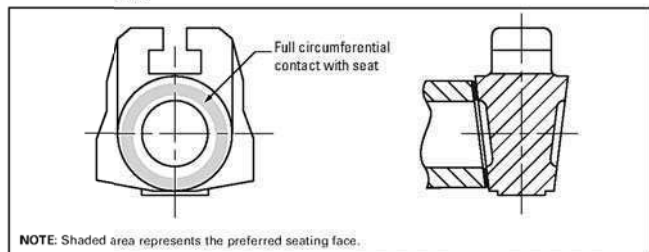

Figure 6.1A Wedge seating face
nuts. With the handwheel, close the valve firmly and then open partially, remove bonnet nuts and lift entire bonnet assembly. Care should be taken that the wedge does not slip off the stem "T" head. Check wedge seating face for 100% contact as shown in Figure 6.1A.
3. Figure 6.1A illustrates a wedge with a full seating circumference. This must be achieved when fitting a wedge.